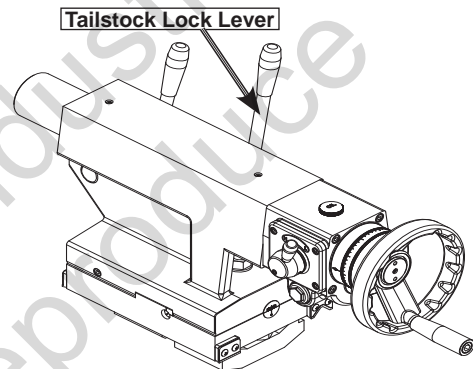

Figure 13. Tailstock lock lever.
3. To balance the lifting load, loosen the tailstock lock lever (Figure 13), move the tailstock to the end of the bedway, then lock it in place.